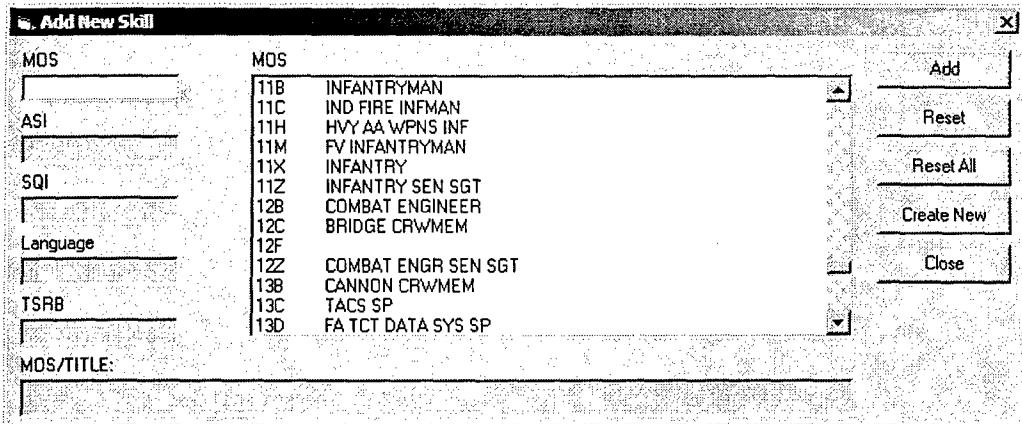

Figure 23. Add New Skill
1. Click on the *Create New Skills* option from the Utilities menu to add a skill that does not yet exist in the database. The Add New Skill Edit screen is displayed as shown in Figure 23.